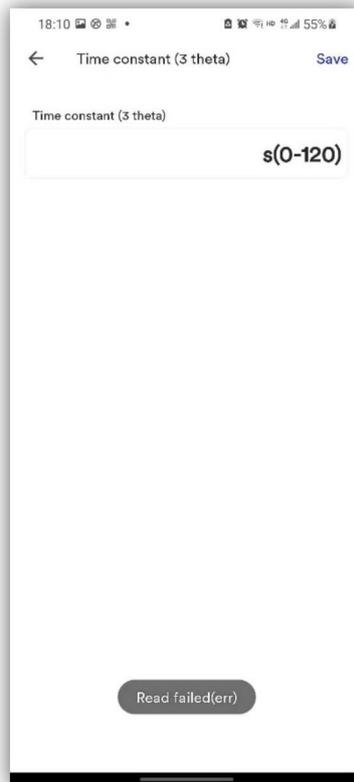

Figure 24 Time constant
**Time constant settings is as shown in Figure 24:**